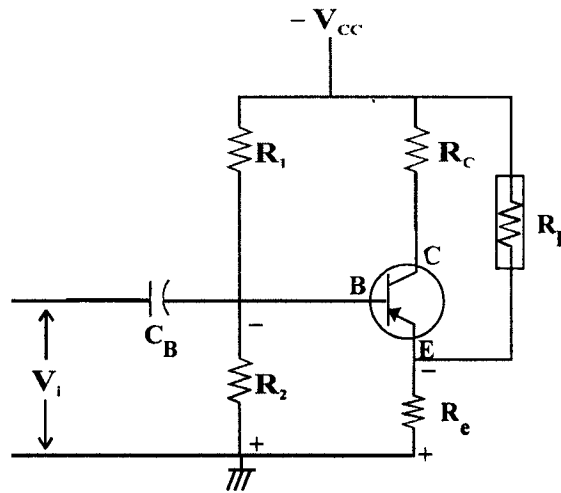

Fig 5.16 Thermistor compensation
The circuit is as shown in Fig. 5.16. R_T is the thermistor. As temperature increases, R_T decreases. So the current through R_T increases. As this current passes through R_e , there is voltage drop across R_e . Since, it is PNP transistor. Collector is to be reverse biased and hence $-V_{CC}$ is given. So the potential at the emitter (E) point is negative. Since the emitter is grounded, this acts as the reverse bias for the emitter. As the drop across R_e increases, the emitter reverse bias increases and hence I_C decreases. Thus the effect of temperature on I_C i.e., due to increase in temperature, there will be increase in β , V_{BE} and I_{CO} . The corresponding increase in I_C is nullified by the increase in the reverse bias voltage at the emitter. Thus compensation is achieved.